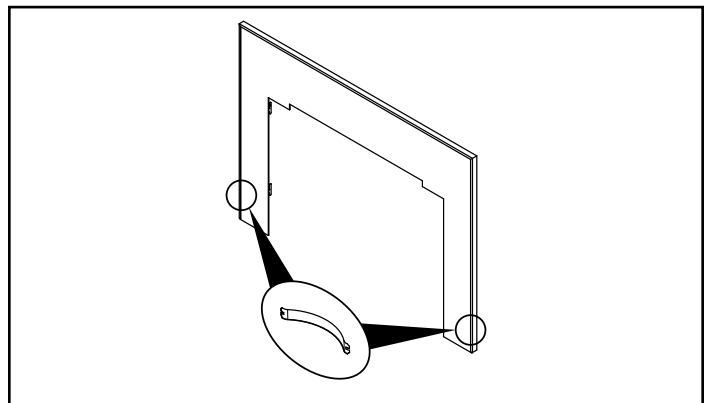

Figure 5.15
6. Install two steel springs on each side of the flat surround towards the bottom and the assembled trim kit (**Figure 5.15**).